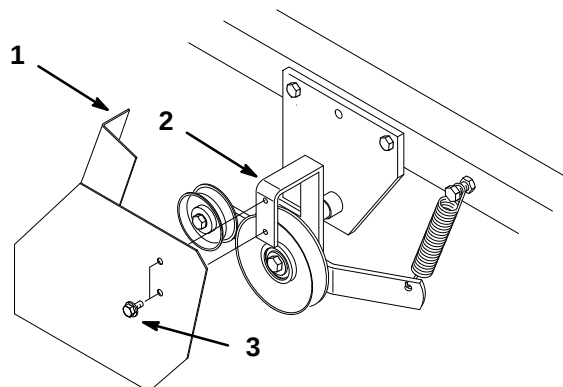

Figure 18
18. Install belt guard to mid-mount bracket with (2) 1/4 x 1/2" self tapping bolts (Fig. 18).
3. Remove the belt guard (Fig. 18).